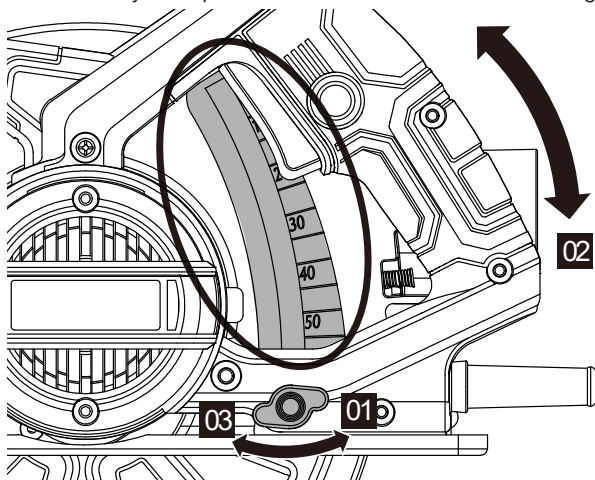

Figure 7
1. CUTTING DEPTH ADJUSTMENT (SEE FIG. 7)